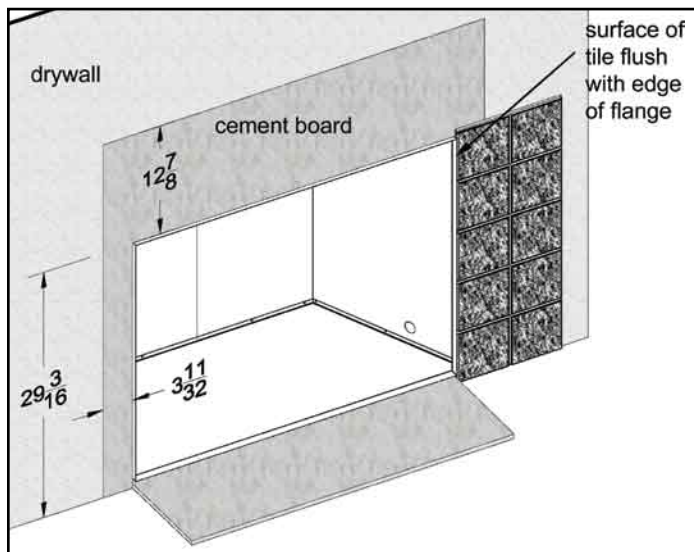

Figure 12. Dimensions Facing Around Opening (inches)
**TILED FINISH:** Because of the amount of heat exuded by the fireplace, drywall cannot come directly up to the fireplace. Figure 12 shows the minimum dimensions for the cement board. Tile or other non-combustible materials cover the cement board, but do not overlap into the fireplace opening. The total depth of the cement board and the finishing materials should be a minimum of 1in (2.5cm) to maximum of 1 3/8in (3.5cm). The fireplace front will be installed over top of the finishing material.